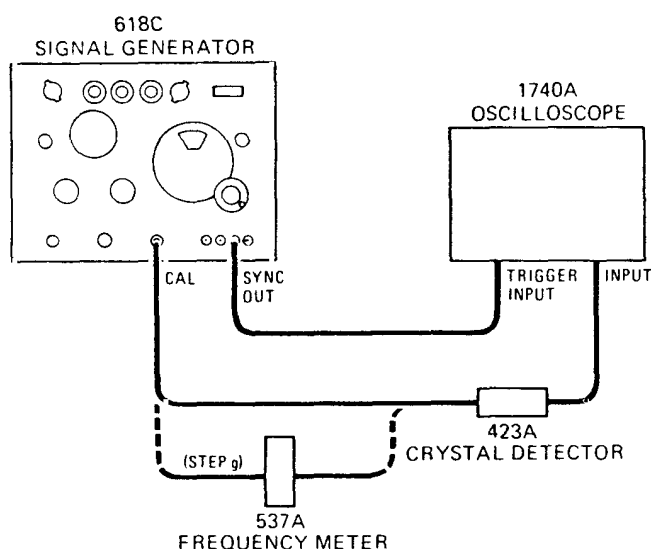
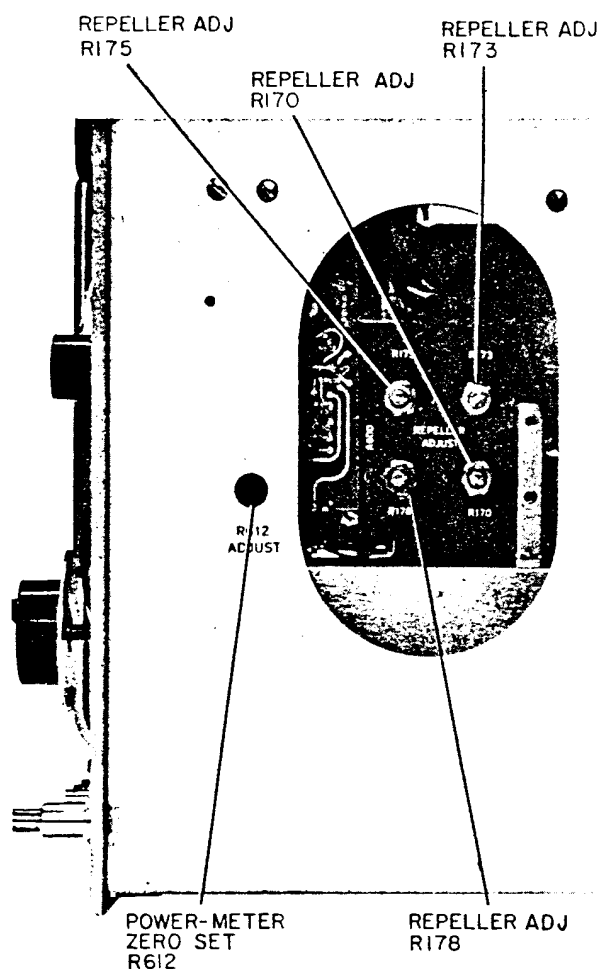
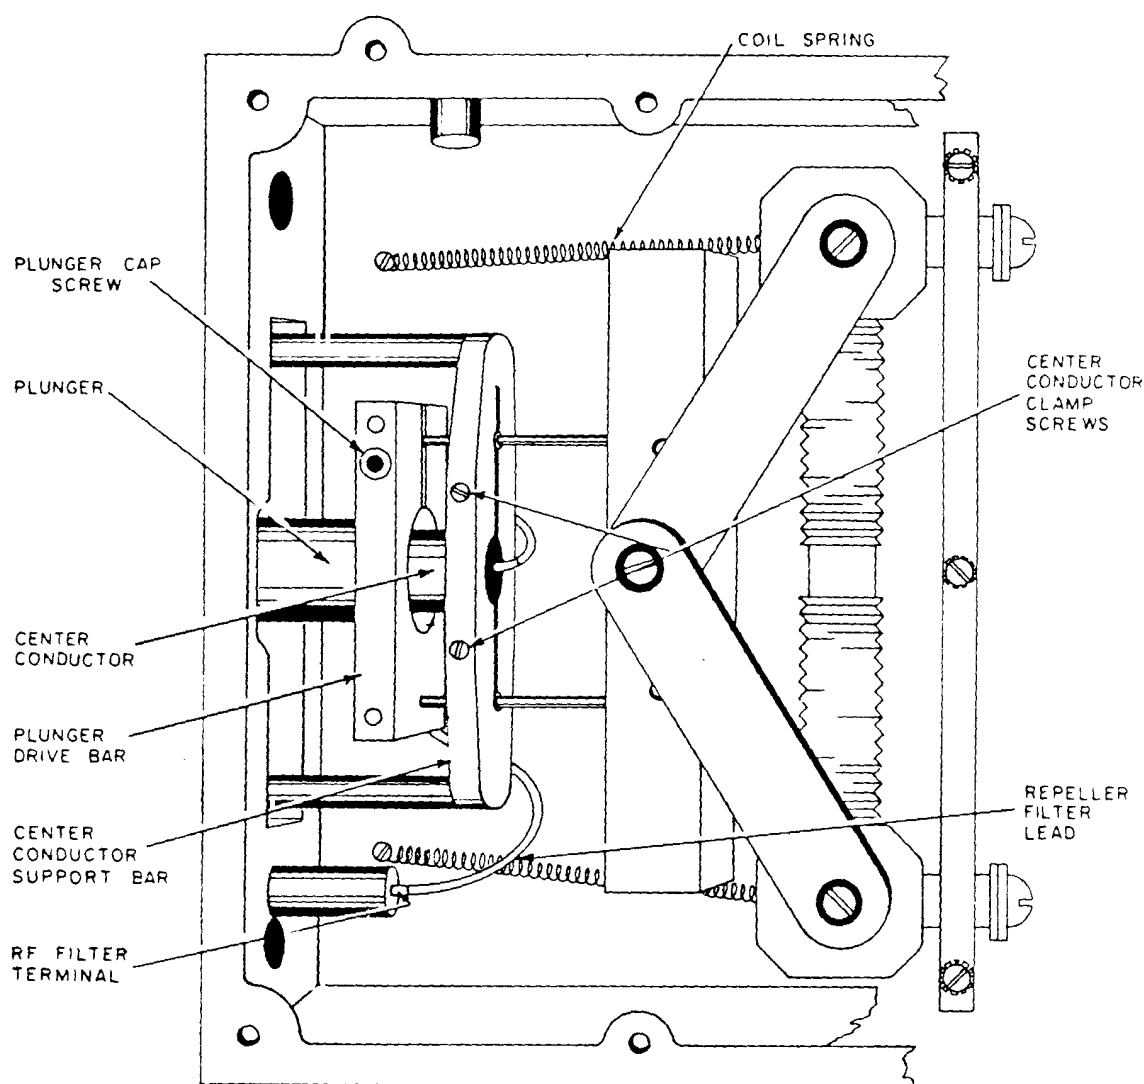

Figure 5-9. Setup for Frequency Dial Calibration (618C)
Figure 5-11. Location of Tracking and Power-Set Meter Adjustments
Figure 5-13. Frequency Drive Mechanism, Cover Plate Removed (620B)
- d. Connect instrument as shown in Figure 5-9.
- g. At this point it is advisable to check the dial calibration at the high end stop. This check avoids possible retracking adjustments when the dial calibration is adjusted later. To conduct the check, tune frequency control to high end stop and place wavemeter in circuit as shown in Figure 5-9. Wavemeter should indicate 7.650 GHz. When the wavemeter is tuned to the actual frequency of the generator a slight decrease in the peak level of the pulse appears on the scale. If this frequency is more than 25 MHz away from 7.650 GHz perform step d in paragraph 5-34.
- h. Remove wavemeter and reconnect output cable as shown in Figure 5-9. Tune the frequency control toward 5 GHz, adjusting R170 (Figure 5-11) for best pulse shape between 7.6 and 5 GHz.
- i. Tune the frequency control between 5 and 4.2 GHz; adjust R173 and/or R178 (Figure 5-11) for optimum pulse shape.
- e. Adjust POWER SET control to obtain up-scale indication on the power set meter. If necessary, adjust potentiometer R170 (Figure 5-11) to obtain proper meter indication. Recheck klystron beam current (25 mA maximum).
n. Measure Signal Generator output frequency with Frequency Meter. If the measured frequency is below 11.1 GHz, remove bottom plate from frequency drive mechanism and perform (1) through (4) following: if not, perform (5) through (9) following:
- (1) Loosen plunger cap screw (Figure 5-13).
- (2) Adjust Frequency Meter to 11.1 GHz.
- (3) Gently tap rear of plunger until Frequency Meter dip is centered on mode pattern.
- (4) Tighten plunger cap screw and replace bottom plate.
- (5) Set Frequency Meter to 11.1 GHz.
- (6) Adjust frequency dial until Frequency Meter pattern is centered on the mode pattern.
- (7) Loosen plunger cap screw.
- (8) Turn frequency dial to high frequency stop while holding plunger stationary.
- (9) Tighten plunger cap screw and replace bottom plate.
p. Tune Signal Generator across entire band and center repeller mode pattern with repeller tracking potentiometer R170, R173, R175, and R178 (Figure 5-9). Figure 5-12 (A and C) shows two typical mode patterns. Figure 5-12A shows a symmetrical mode pattern that is properly centered by the correct repeller voltage; Figure 5-12B shows the same pattern set off-center by incorrect setting of repeller voltage. Adjust potentiometer R170 and R178 (Figure 5-11) to obtain correct repeller voltage tracking between 11 GHz and the frequency just above the point where the microswitch is actuated (approximately 8.7 to 9 GHz). Adjust potentiometers R173 and R175 (Figure 5-11) to obtain correct repeller voltage tracking between the frequency just below the point where the microswitch is actuated (approximately 8.6 GHz) and 7 GHz.
h. Refer to Figure 5-13 and loosen the cap screw holding the plunger in the plunger-drive bar.
a. Remove instrument cover for access to R612 (see Figure 5-11).
c. Adjust POWER SET until meter pointer is about 3/8 inch to the right of zero (0).